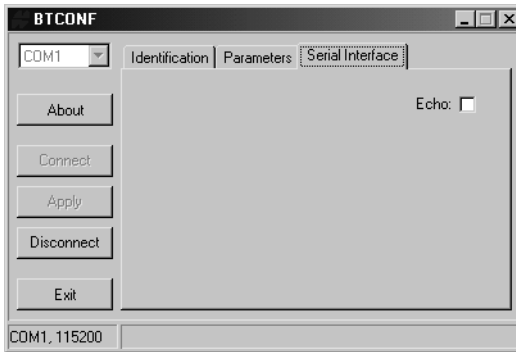

Figure 2-28. BTCONF Serial Interface Tab
8. Click the **Serial Interface** tab (Figure 2-28). Enable Echo to display Bluetooth module replies and corresponding commands on the computer terminal. If needed, click **Apply**.